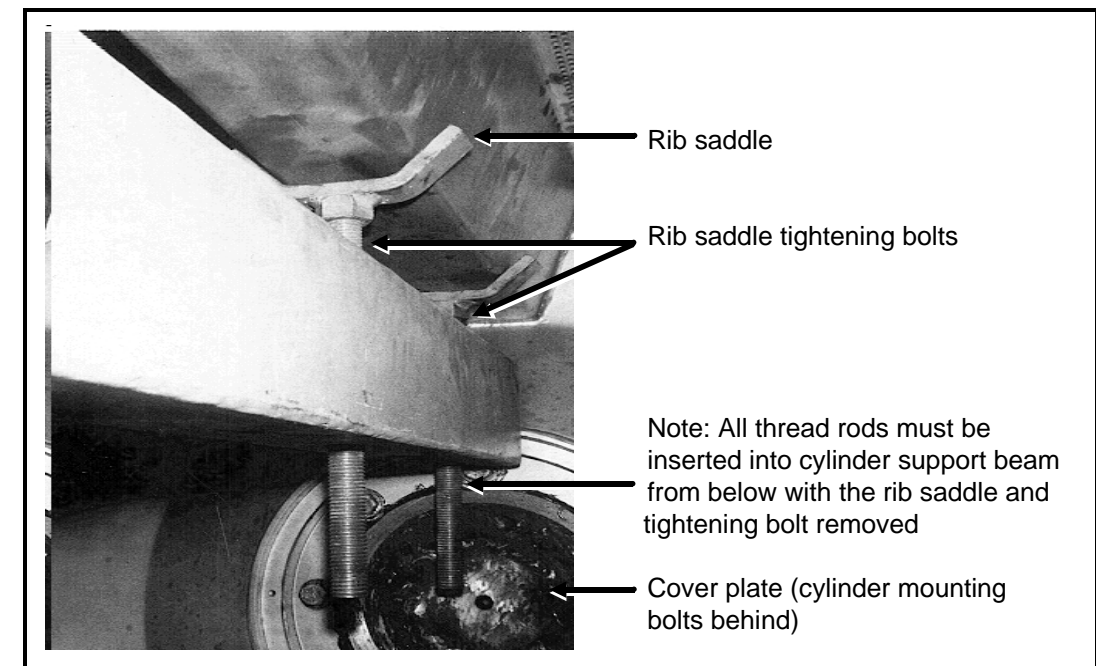

FIGURE 4 (MSSMA403AE)
5. With a cylinder rib in the 12 o'clock position as previously explained, install the rib saddles as shown in FIGURE 4 below, and tighten against the rib until the weight of the cylinder is resting on the support beam.
1. Remove the cover plate from the rear of the cylinder to expose cylinder mounting bolts (refer to FIGURE 4).